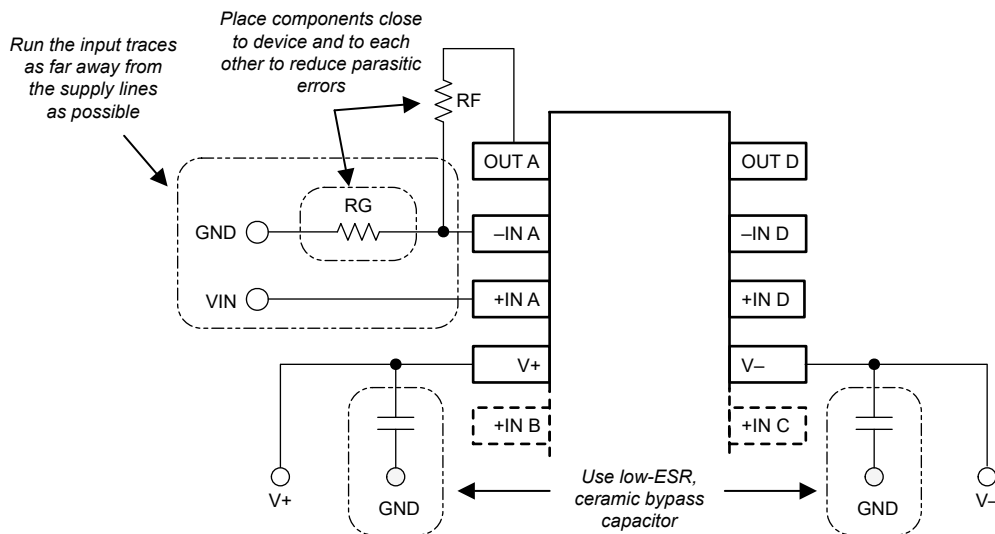

FIG 8-8. Operational Amplifier Board Layout for Noninverting Configuration
- Place the external components as close to the device as possible. As illustrated in 図 8-8, keep R_F and R_G close to the inverting input to minimize parasitic capacitance.